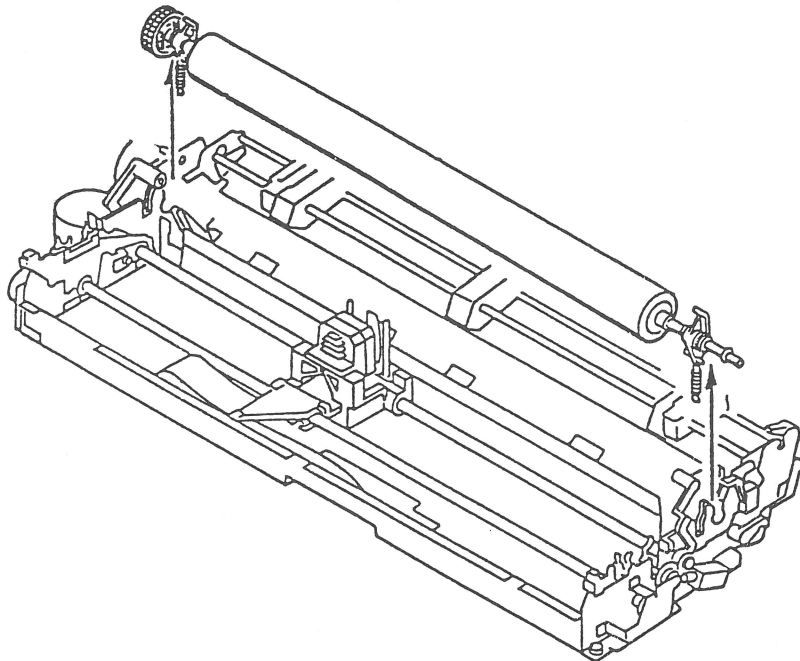

FIGURE 8
7. Lift the platen up on the right side until it clears the cut sheet feeder lever and printer frame (Figure 8).
8. Lift out the left side until it clears the gear assembly (Figure 8). Set the platen aside.